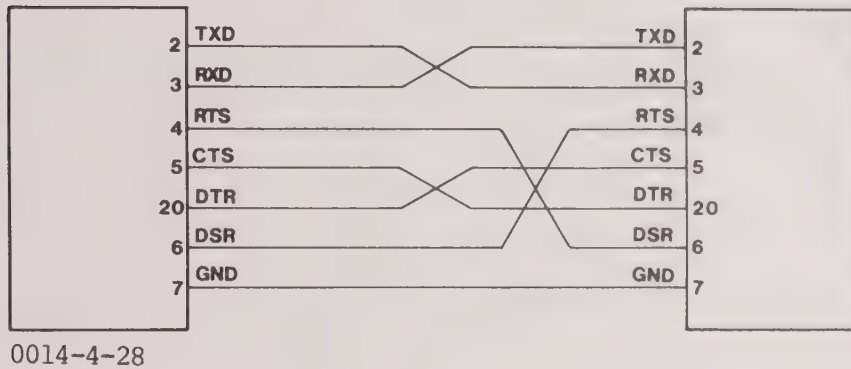

Figure 4-28. Complete Null Modem
The interconnection shown in Figure 4-28 is a complete arrangement to interconnect the K105-D to any computer using the earlier described hardware handshake capabilities.
1. Connect the Epson FX-80 printer unit to the K105-D, using the null modem diagram shown in Figure 4-28.